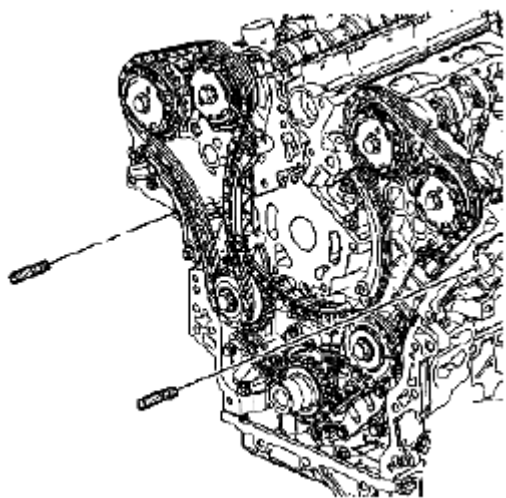

Fig. 121: Identifying Guide
1. Install the 8 mm (0.315 in) guide from the EN 46109 into the cylinder block positions as shown in **Fig. 121**.